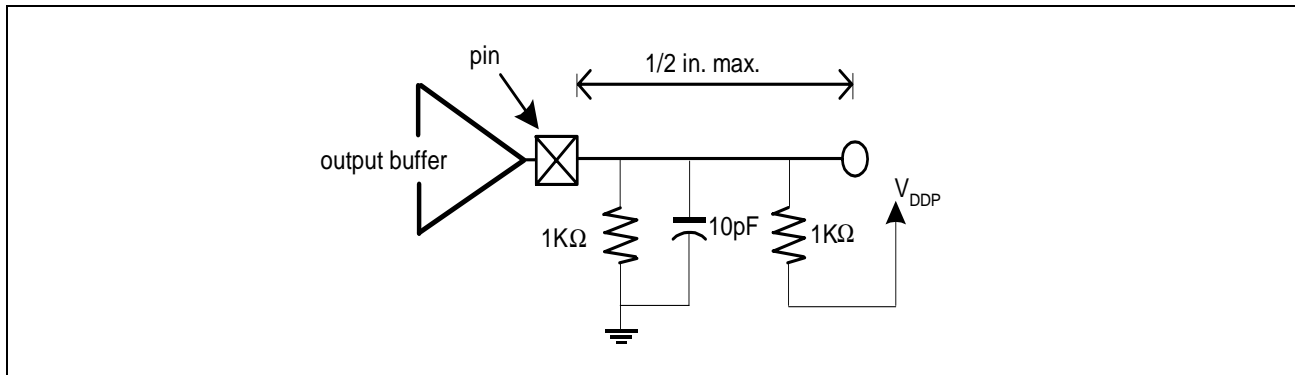
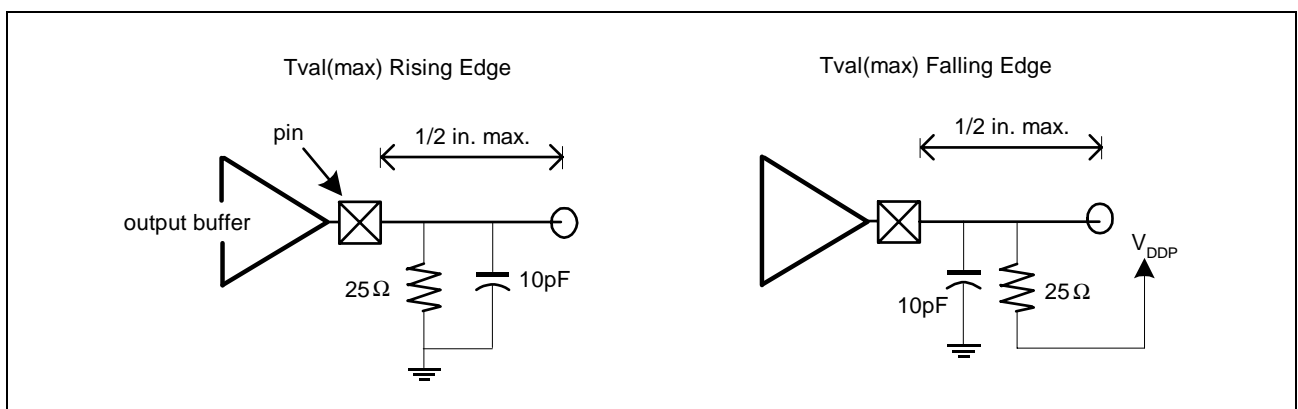

Figure 41 Load Circuit for Slew Rate Measurement
Figure 45 Load circuits for Maximum Clock to Signal Valid Delays
- 5) This parameter is to be interpreted as the cumulative edge rate across the specified range, rather than the instantaneous rate at any point within the transition edge. The specified load (see Figure 41) is optional; i.e., the designer may choose to meet this parameter with an unloaded output as per revision 2.0 of the PCI Local Bus Specification. However, adherence to both max. and min. parameters is required. Rise slew rates does not apply to open drain outputs.
2) Minimum times are evaluated with same load used for slew rate measurement (as shown in Figure 41). Maximum times are evaluated with the load circuits as illustrated in Figure 45.